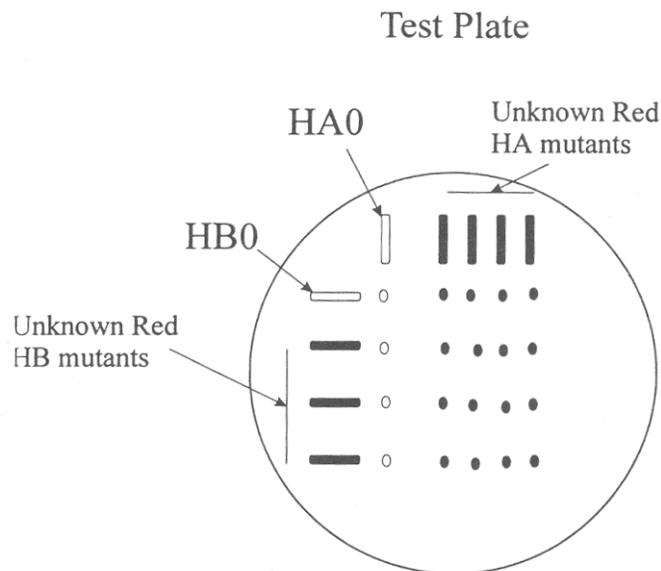

Figure 6.3.
1. Make all of the possible crosses among the unknowns and the known haploid stains. Use a fresh, sterile toothpick to transfer a small amount of yeast from each of the HA0 and the HA unknowns to positions marked in the Figure 6.3.